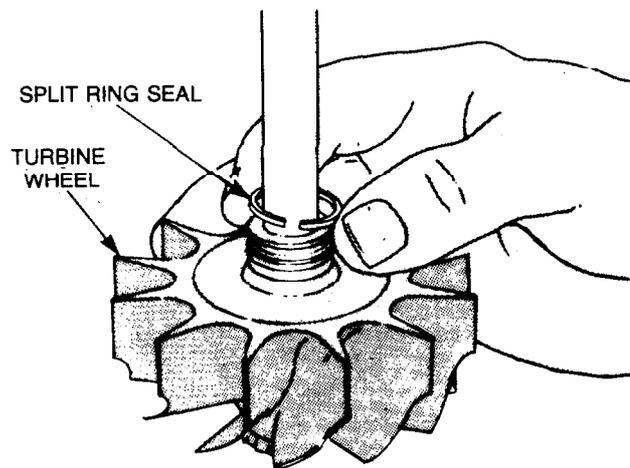

Figure 151 — Split Ring Seal — Installation
- i. Secure the insert (item 24) into the bearing housing (item 14) with the retaining ring (item 25).
- j. Install the two new split ring seals (item 3) onto the turbine shaft and wheel (item 2) as shown in Fig. 151.